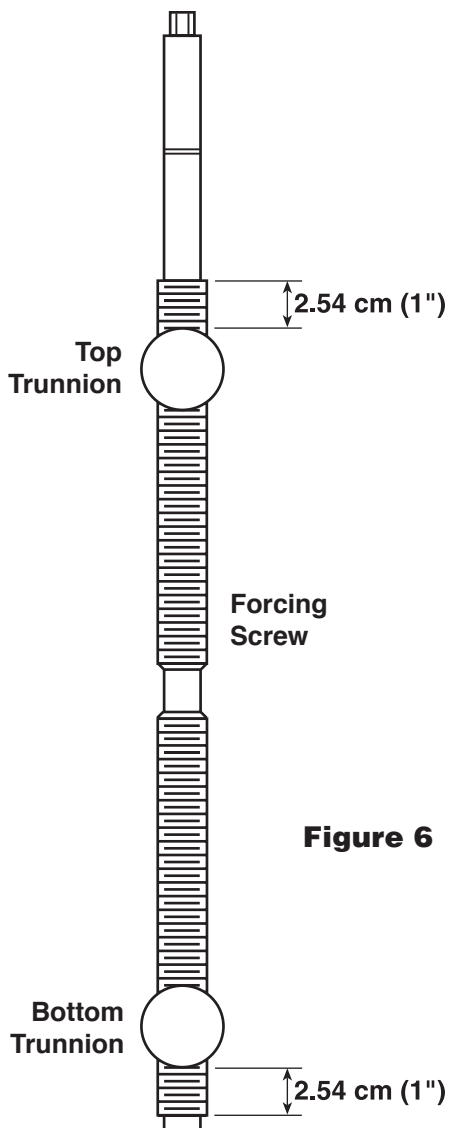

Figure 6
1. Ensure both trunnions are driven in approximately one inch from the edge of the forcing screw's bottom threads and one inch from the edge of the top threads, respectively, before remounting the arms onto the trunnions. See Figure 6.